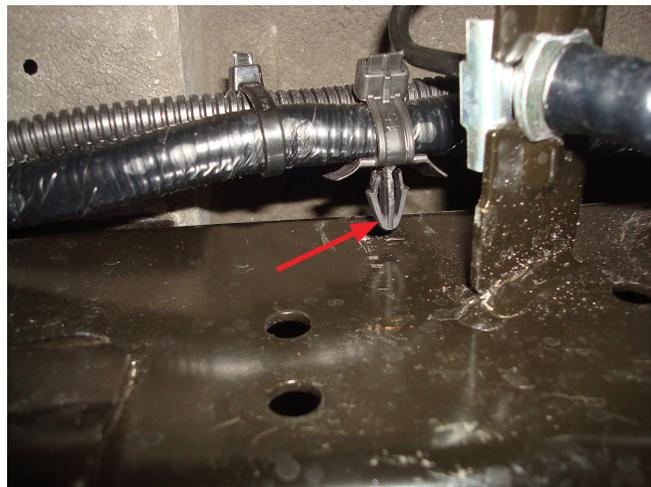

Fig. 3
2. Pull the factory jounce bumpers out of the cups, then remove the cups from the frame by removing the M8 bolt. (Figs. 3 & 4).